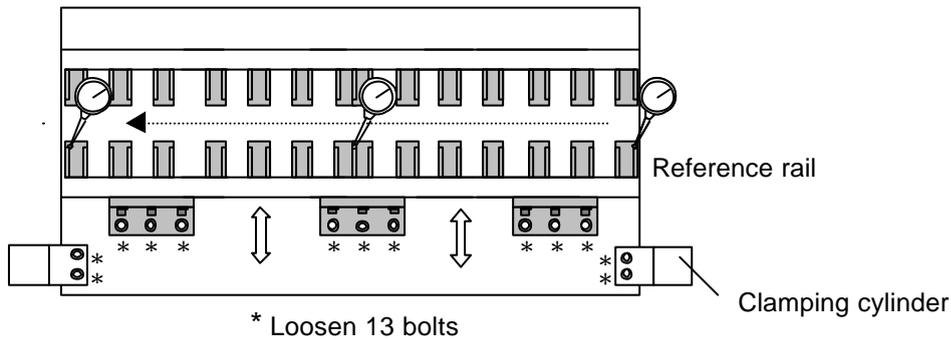

Figure 18
- After the positioning has been completed in step 3, an alignment check of the reference rail in the X-direction is necessary. Carry out the alignment check as indicated in Fig 18.